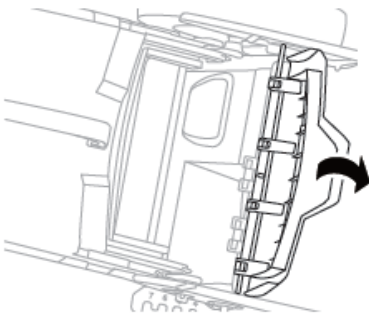

Fig.4D
1. To fit: Raise the rear cover and hitch the grass catcher on the rear of the mower. (Fig.4D/ Fig.4E)